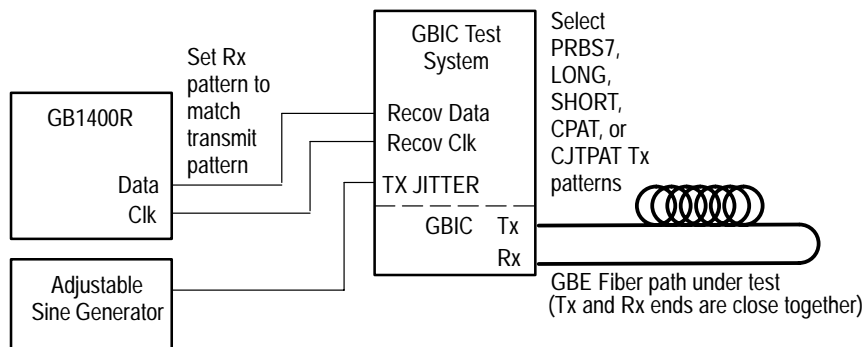

Figure 13: Stress Testing via increasing Transmitted Jitter through the rear Tx JITTER INPUT
As shown in figures 13 and 14, the setup for adding jitter to the transmitted signal is the same as for bit error rate testing except for the insertion of a sinewave or DC voltage at the JITTER IN input.
1. Set up the equipment as shown in Figure 13 or 14.
2. If using the setup in Figure 13, set the sinewave generator to the desired jitter frequency.